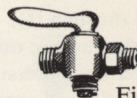

Fig. 43
42. What are air and fluid valves? (Fig. 43)